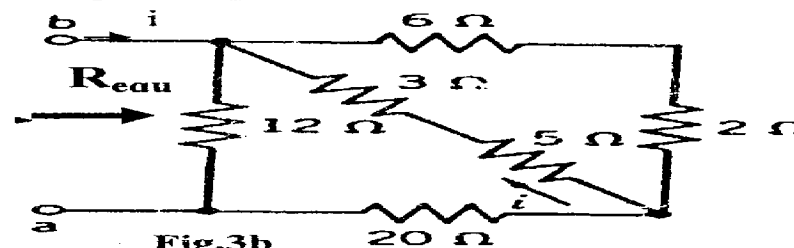

Fig.3b
- b. Find i and R_{equ} if $V_{ab} = 80$ V in the circuit of figure 3b